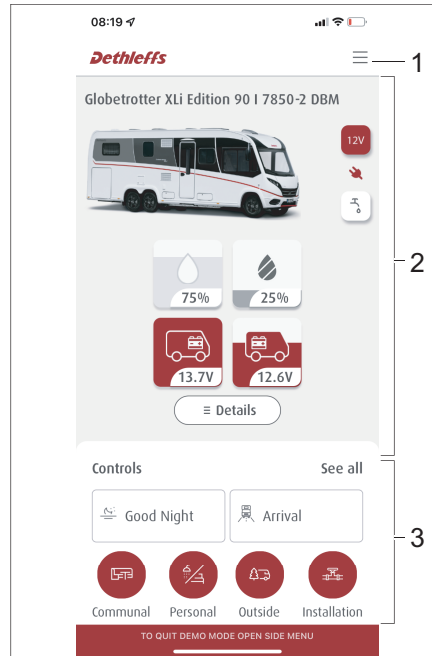

Fig. 300 Dethleffs Connect App design
- Menu section (Fig. 300,1)
- Vehicle information (Fig. 300,2)
- Handling and scenarios section (Fig. 300,3)